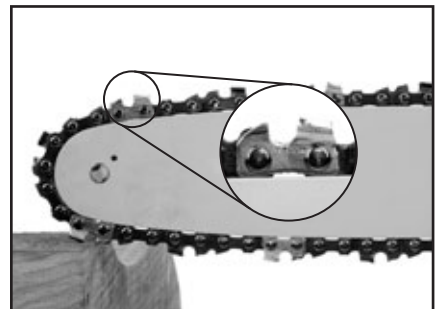

FIG. 7
- Fit the guide bar (29) with the saw chain (28) on to the locating stud (29.1). The chain links on the top of the guide bar must have the arrow pointing away from the housing. If there is no arrow marking visible on the chain, mount it as shown in (Fig.7).
- Replace the drive sprocket cover (30) and the 10mm nut (30.1) and tighten securely.
### 9.2 TENSIONING THE CHAIN - FIGS.7 - 9